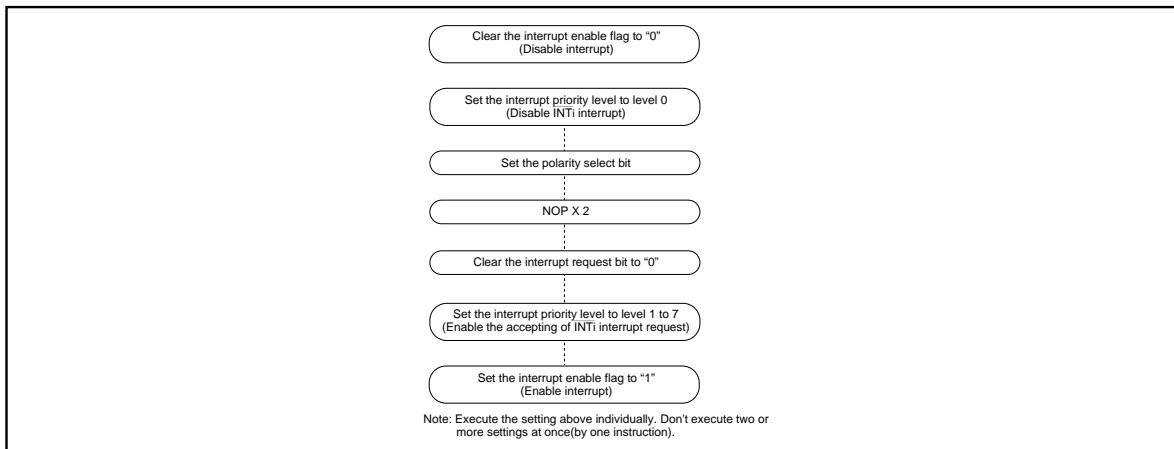

Figure 1.12.13. Switching condition of INT interrupt request
- When the polarity of the  $\overline{\text{INT}}_0$  to  $\overline{\text{INT}}_5$  pins is changed or the interrupt request cause of the software interrupt numbers 8 to 9 is changed, the interrupt request bit is sometimes set to "1". After these changes were made, set the interrupt request bit to "0". Figure 1.12.13 shows the procedure for changing the  $\overline{\text{INT}}$  interrupt generate factor.